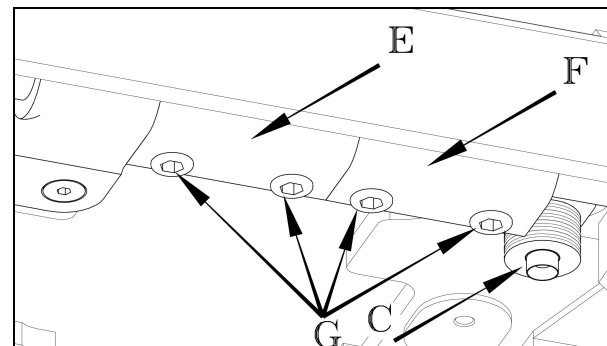

Fig 2
The clamp pressure can be increased or decreased by changing the number of washers (C) in the clamp pull mechanism, as in Fig 2. Add washers to increase the clamp pressure
Adjust blocks (E) & (F) as shown in Fig 2 by loosening screws (G).